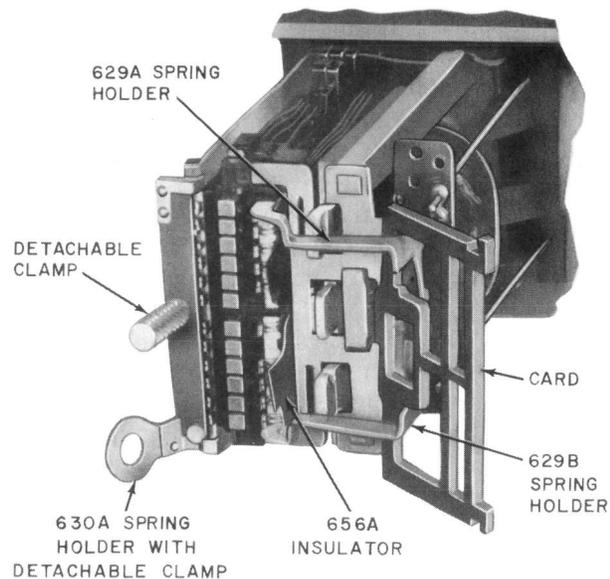

Fig. 27—12-Position Relay—Card Removal Tools Mounted in Place
4.27 On relays having break contacts, proceed as covered in 4.17 but do not cut the card; allow it to hang freely on the 629A and B spring holders as shown in Fig. 27. Then remove the spring holders with the card. Remove the 656A insulators if they were used.
(a) If the relay has break contacts in positions 7 through 12, apply the 629A spring holder between the fixed and break-contact springs as follows. Holding the card with the notched ends at the left and the code and date information visible, insert the notched leg of the holder through the opening in the card adjacent to the upper right-hand corner. The shank of the holder should be adjacent to the top of the card. Then, with the card on the spring holder, insert the notched leg of the holder behind the movable break contacts from above so that the six notches in the holder line up with the six positions (7 through 12) on the relay. Swing the outer end of the holder to the right, and clip it on the core plate as shown in Fig. 27. Make sure that each pair of twin springs is engaged by the proper notch in the holder.
(b) If the relay has break contacts in positions 1 through 6, apply the 629B spring holder between the fixed and break-contact springs as follows. If the 629A spring holder was used in positions 7 through 12, insert the notched leg of the 629B spring holder through the lower right-hand opening of the card. With the notched leg of the spring holder pointing downward and the other end held slightly away from the relay, rotate the holder toward the relay and insert the notched leg behind the contacts from below. Position the holder so that the six notches line up with the six positions (1 through 6) on the relay. Swing it onto the core plate as shown in Fig. 27. Make sure that each pair of twin springs is engaged by the proper notch in the holder. If the 629A spring holder was not used, insert the notched leg of the 629B spring holder through the lower right-hand opening of the card. Then insert the notched leg of the holder between the fixed and break contacts in positions 1 through 6 as covered above.